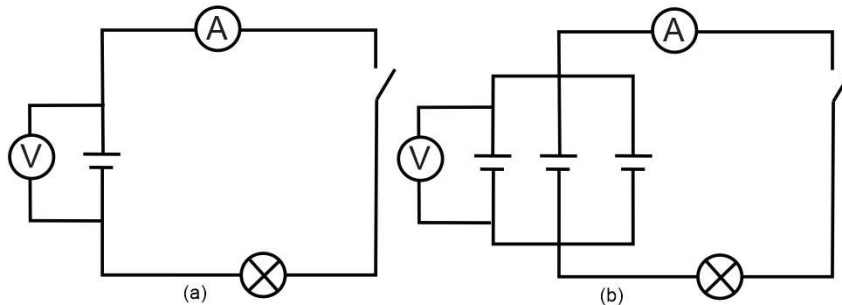

Fig. 10.7: Cells connected in parallel
- Connect a simple circuit as shown in Fig. 10.7 (a).
- Increase the cells to two as shown in Fig. 10.7 (b), then three and measure total voltages and current.